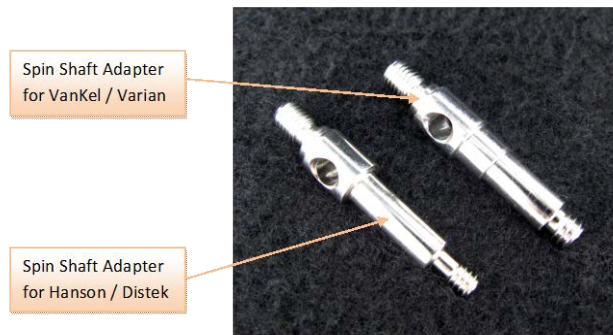

Figure 20
- 4.9.2.1 Follow the instructions in Section 4.7.1 with the following exceptions. Remove only the lower portion of the paddle or basket shaft assembly and replace it with one of the following Spin-Shaft adapters as shown in Figure 20. (Distek Testers do not require the use of an adapter.)